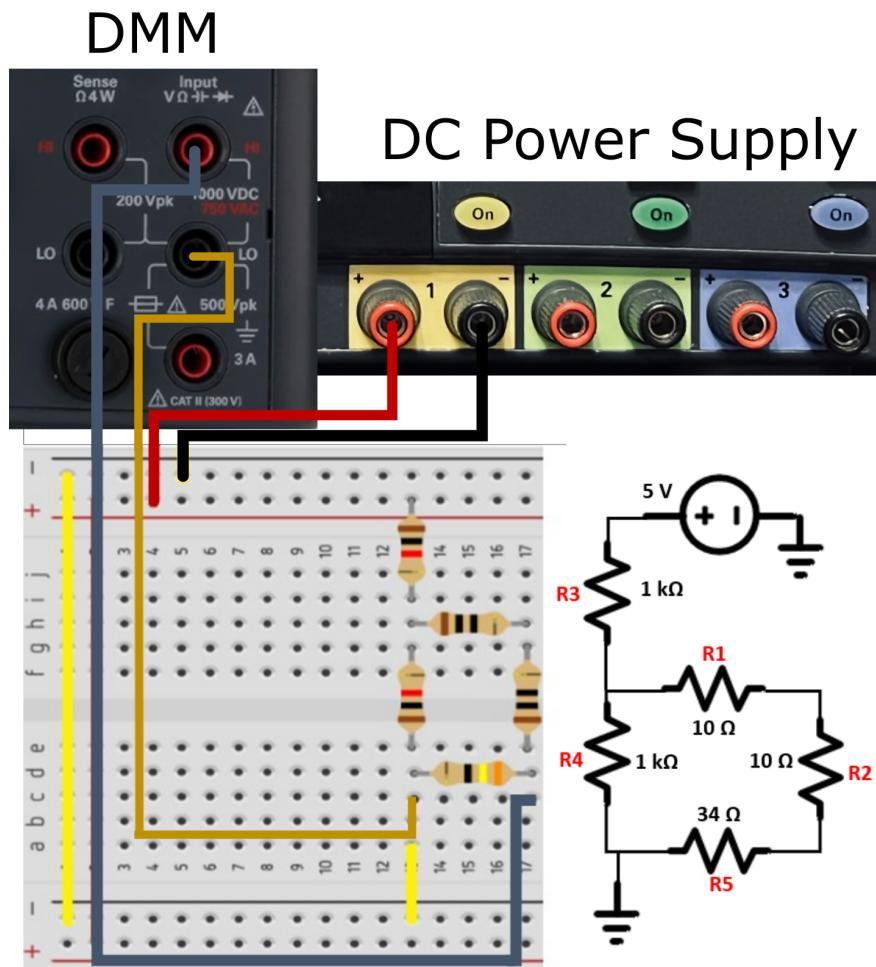

Figure 28: An example of circuit connection on breadboard measuring voltage across R2
1. Assemble the circuits in Figure 7 on a breadboard. When the circuit is assembled it should look like Figure 28.
2. Connect to the circuit to +5V from channel 1 of the DC power supply, the red wire in Figure 28.
3. Connect the ground of the circuit to negative terminal from channel 1 of the DC power supply, the black wire in Figure 28.